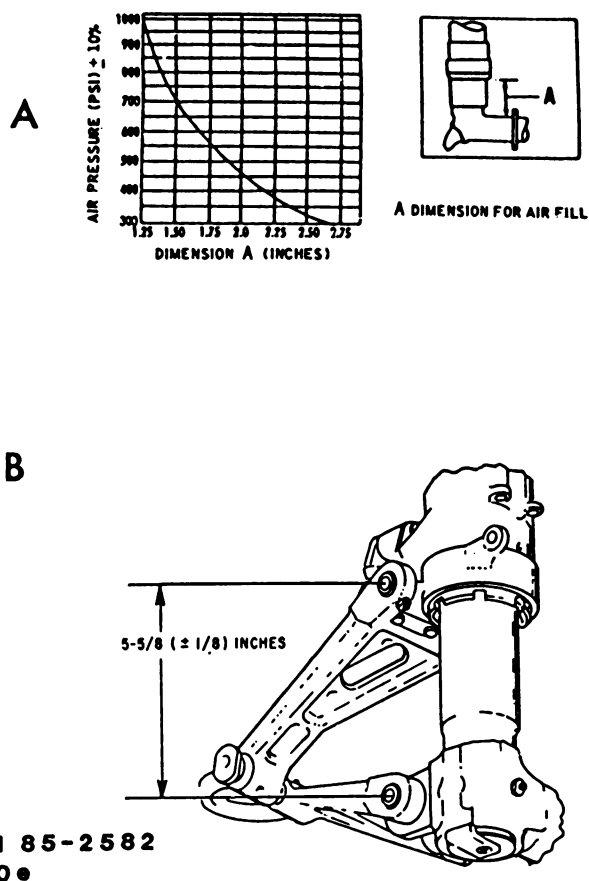

Figure 2-7. Shock strut servicing.
Attach a high-pressure air chuck and inflate the strut, using a regulated high-pressure source of nitrogen or dry compressed air. Under no circumstances should any type of bottle gas, other than nitrogen or compressed air, be used to inflate the shock struts. Nitrogen is preferred over compressed air. The amount a strut is inflated depends upon the specific aircraft strut being serviced. Figure 2-7 shows two ways of determining the amount a strut is inflated. In view B it shows a strut with the proper extension. It is measured from the center of the upper torque arm to the center of the lower torque arm. All you do is inflate the strut until you get this dimension. In view A you would have to use a strut inflation chart. The strut is measured as indicated at dimension "A." This measurement in inches is then located on the bottom of the inflation chart. For example, locate the measurement of 1.75 inches on the chart. Then from this point, trace an imaginary line vertically until it intersects the curved line. At this point of intersection, trace a second imaginary line horizontally to the left edge of the chart. The amount indicated at this point (550 psi) is the required pressure for that particular extension of the strut.
4. Referring to figure 2-7, view A, how much air must be placed in the strut if the strut shows 2.0 inches of extension?